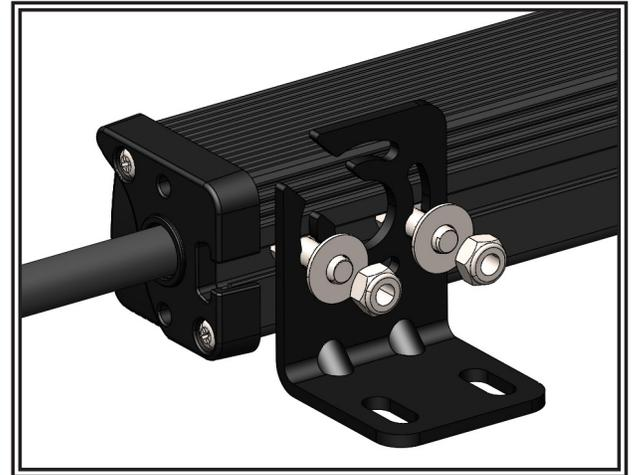

Figure 2
1. Loosely assemble the mounting brackets into the rear channel as shown in FIGURE 2 using the included hardware.